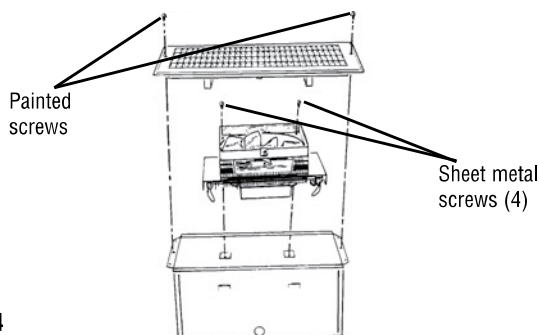

Figure 4
2. After plug is fully inserted into receptacle, push heater down in position and secure with two (2) screws provided (See Figure 4).
4. Place the grille over the enclosure and secure with the two painted screws provided as shown in Figure 4.